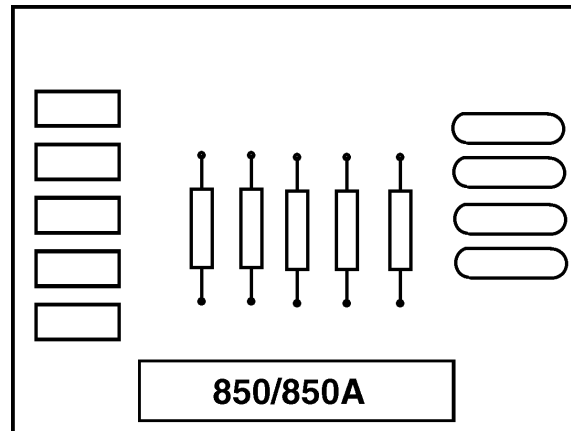

Fig. 4-9 RS-232 DB25 board.
- To remove the RS-232 DB25 board, unscrew the two hex screws (on the exterior of the cabinet) holding the connector to the cabinet. From the inside of the cabinet, pull the connector through the panel, and disconnect the cable (see Fig. 4-9 for location).